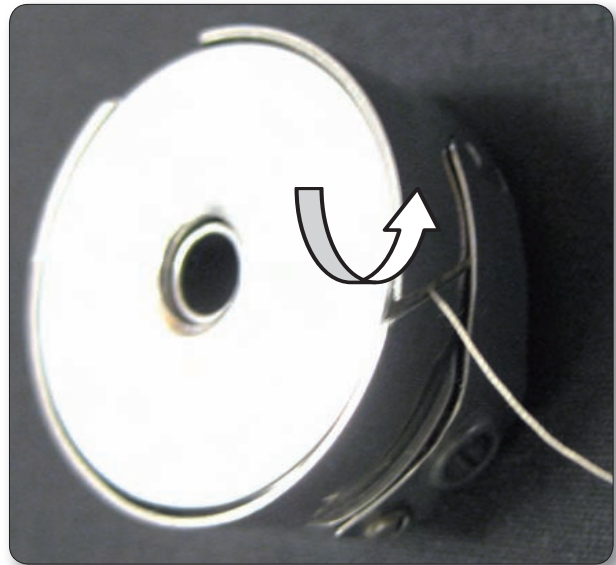

Figure 16
2. Slide the thread through the slot (Figure 16) and under the tension spring leaving 5-6 inches of thread hanging loose (Figure 17, next page).